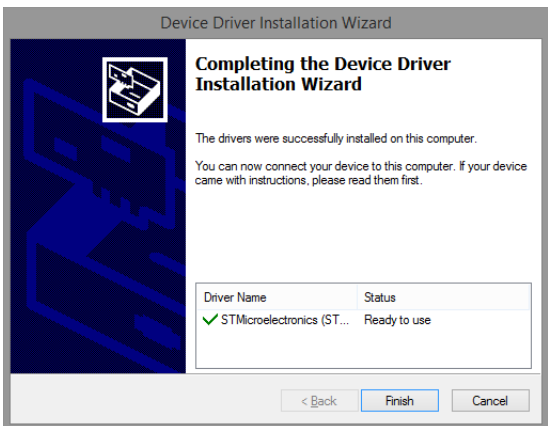

FIG. 27 Device Driver Installation Wizard (2 of 2) - Completing the Device Driver Installation Wizard dialog
5. Click **Finish** to close this dialog and open a second Device Driver Installation Wizard that installs the second device driver (FIG. 27):
6. Click **Finish** to close the Device Driver Installation Wizard and return to the final *Acendo Vibe Setup Wizard* dialog (FIG. 27):